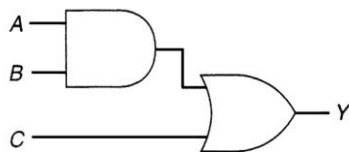

Figure 4-13 Logic circuit for question 22.
22. The correct Boolean expression for the logic circuit of Figure 4-13 is _____. 22. _____